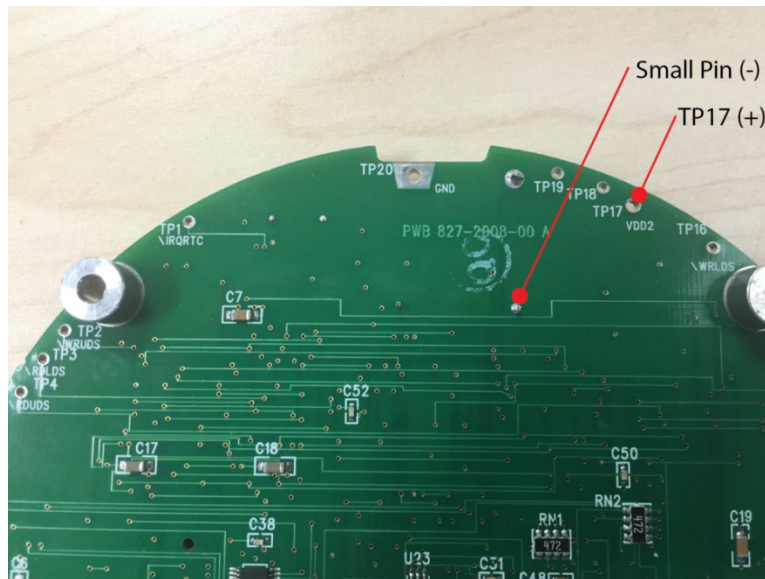

Figure 35. Lithium Battery Test Points on the CPU Board
5. Measure the voltage on the CPU board between TP17 (BAT+) and the small pin on the battery located on the back side of the CPU board (GND) (see Figure 35).